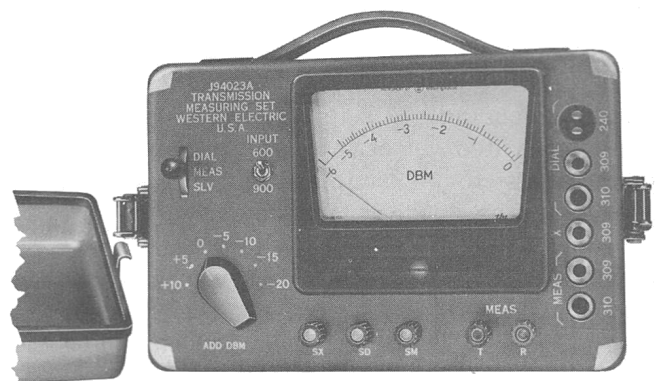
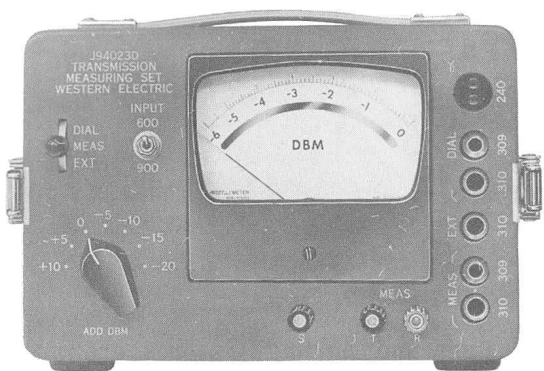

Fig. 1—The 23A Transmission Measuring Set
Fig. 2—The 23D Transmission Measuring Set
2.01 The 23A and 23D sets each weigh 6 pounds and measure 6 inches wide, 9-1/2 inches long, and 5-1/4 inches deep (including cover, hinges, feet, and carrying handle). The sets are packaged in an aluminum case of the deep drawn type, which is provided with a retractable handle for carrying. See Fig. 1 and Fig. 2 for views of the 23A and 23D sets, respectively.
3.02 The input circuit of the 23A set consists of jacks, binding posts, and the DIAL-MEAS-SLV key (see Fig. 1). The jacks are provided for making the various dialing and measuring connections between the 23A set and a variety of types of switchboards, testboards, test frames, PBXs, etc. The group of jacks designated MEAS provides for connecting the 23A set to the circuit being measured using 309- and 310-type plugs. Dual binding posts for banana-type plugs as well as spade tips or wires are also provided to facilitate making connections to the set when plug-ended cords are not available. One binding post is black and is designated T (tip), and the other is red and is designated R (ring). The group of jacks designated DIAL is for connecting a handset or other equipment, when required, for controlling or establishing connections. The jack designated 240 is provided for making dialing connections for the special 240-type plug on the handset used in the step-by-step offices.
3.07 The input circuit of the 23D set consists of jacks, binding posts, and the DIAL-MEAS-EXT key (see Fig. 2). The jacks are provided for making the various dialing and measuring connections between the 23D set and a variety of types of switchboards, testboards, test frames, PBXs, external test sets, etc. The group of jacks designated MEAS provides for connecting the 23D set to the circuit being measured using 309- and 310-type